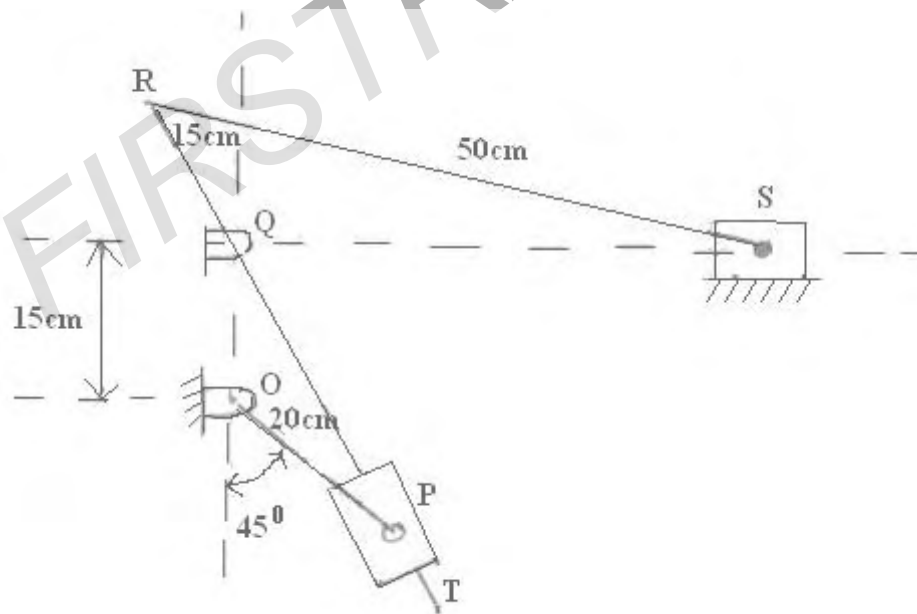

Figure 7
- (b) Figure 7 depicts the structure of Whitworth quick return mechanism used in reciprocating machine tools. The various dimensions of the mechanism for a specified stroke of the tool are :  $OQ = 12\text{ cm}$ ,  $OP = 24\text{ cm}$ ,  $RQ = 18\text{ cm}$  and  $RS = 60\text{ cm}$ . Crank  $OP$  makes an angle of  $60^\circ$  degrees with the vertical. Determine the velocity of the slider  $S$  (cutting tool) when the crank rotates at 120 r.p.m. clockwise. Find also the angular velocity of the link  $RS$  and the velocity of the sliding block  $T$  on the slotted lever  $QT$ . [16]